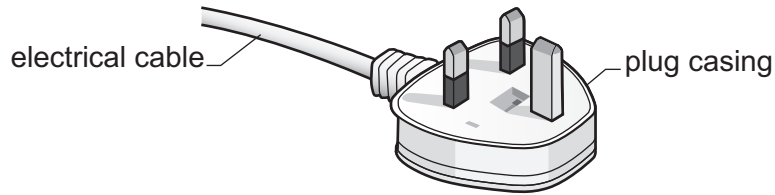

Fig. 5.1
- 5 Fig. 5.1 shows an electrical plug with a length of electrical cable covered with plastic.